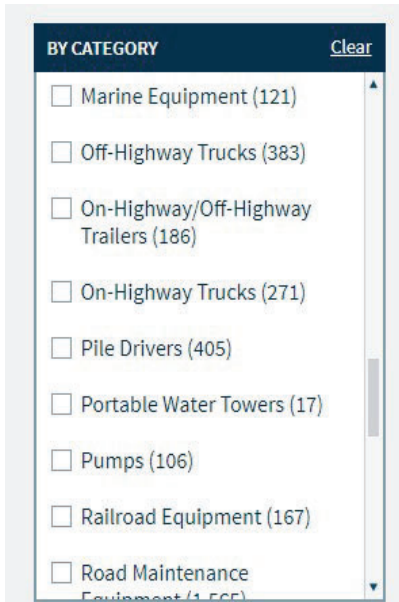

Figure 4-15: EquipmentWatch By Category Search
- i. Use the By Category list. Scroll down to the category of equipment needed (Figure 4-15).